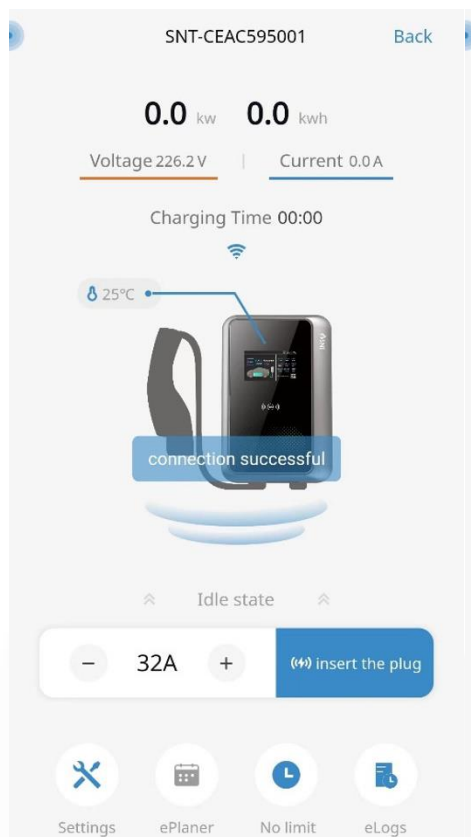
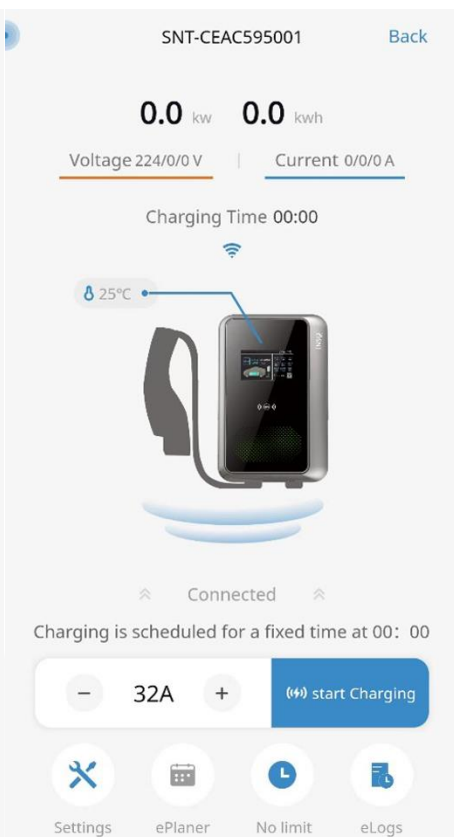

Fig.20
Fig.21
After connecting, return to the APP, the device has been automatically added to the "Home" page, as shown in Fig.20 and Fig.21.
- Start charging: After inserting the plug, you can click the "start charging" button to initiate the charging process, as shown in Fig.20.
- Stop charging: you can click the "stop charging" button to interrupt the charging process, as shown in Fig.21.
SNT Energy APP menu introduction (click “Settings” in Fig.20 to enter) :